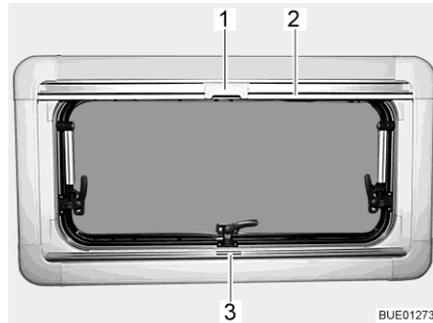
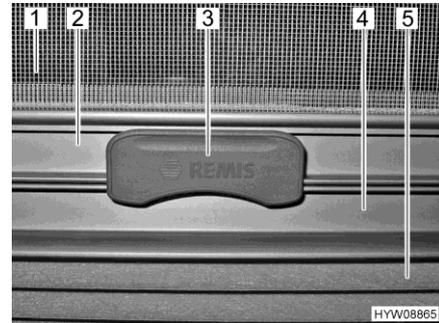

Fig. 20 Hinged window
Fig. 21 Catch
**Roman shade** The Roman shade (Fig. 21,5) is located in the lower blind box.
**Closing:** ■ Seize the Roman shade by the centre of the holding bar (Fig. 20,3 and Fig. 21,4), pull it from the bottom to the top and release it at the desired height. The Roman shade will stay at this height.
**Insect screen** The insect screen (Fig. 21,1) is located in the upper blind box.
**Closing:** ■ Pull the insect screen down by the holding bar (Fig. 20,2 and Fig. 21,2), until it touches the holding bar of the Roman shade (Fig. 21,4).
■ Clip the catch (Fig. 20,1 and Fig. 21,3) on the insect screen into the holding bar of the Roman shade. When the catch is locked, the Roman shade and the insect screen can be adjusted together.
**Opening:** ■ Push the catch (Fig. 21,3) on the insect screen upward.
■ Move the insect screen back slowly on the holding bar (Fig. 20,2).